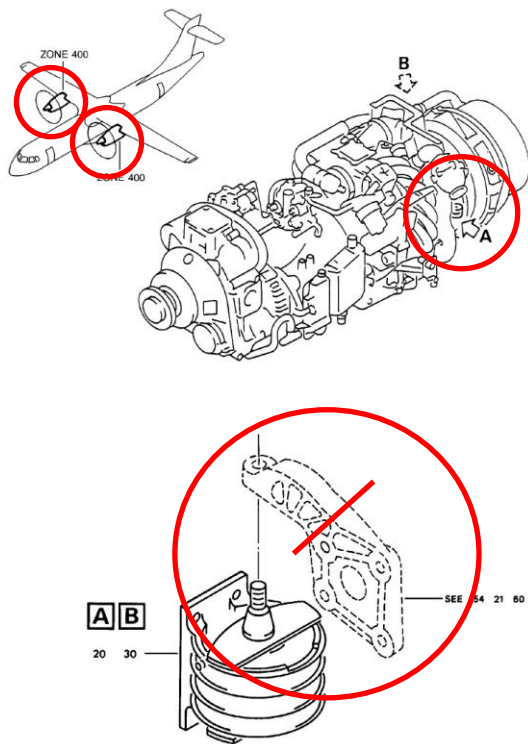
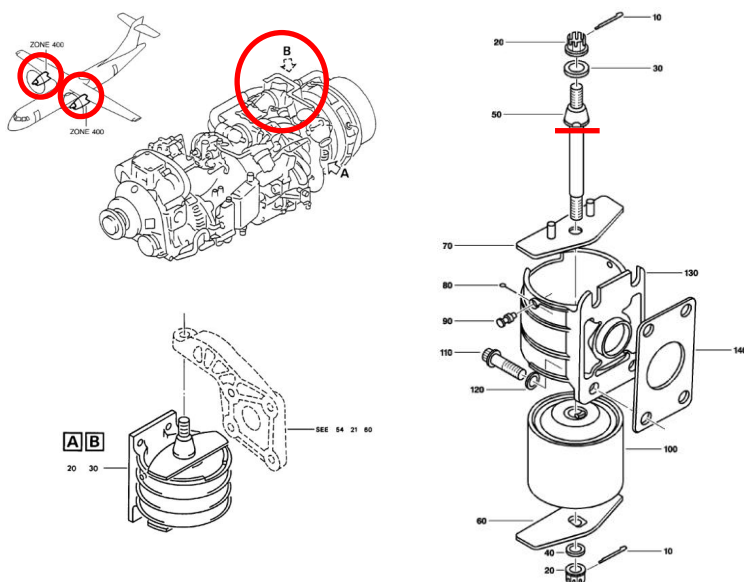

Figure 1: Shock mount pick-up fitting potential failure
Figure 2: Shock mount cone bolt potential failure
<p>Required Action(s) and Compliance Time(s):</p>	<p>Required as indicated, unless already accomplished</p> <p>(1) Within 6 months after the effective date of this AD, accomplish the following actions concurrently:</p> <p>(1.1) Identify the s/n of the P/N S54210394200 LH shock mount pick up fittings installed on both engine nacelles.</p> <p>A review of maintenance records is acceptable to determine the s/n of the LH shock mount pick up fitting, provided the s/n can be conclusively identified from this review.</p> <p>(1.2) Visually inspect both LH and RH aft side isolator pick up fittings on both engines in accordance with the instructions of the applicable Aircraft Maintenance Manual (AMM) Job Instruction Card (JIC) 541161-DVI-10000 paragraph 004.1. Refer to Appendix 1 Figure 1 of this AD for potential crack location.</p> <p>(1.3) Visually inspect both LH and RH aft shock mount cone bolts on both engines in accordance with the instructions of the applicable AMM JIC 712000-DVI-10000 paragraph 006.3.A. Refer to Appendix 1 Figure 2 of this AD for potential crack location.</p> <p>(2) If, during any inspection as required by paragraphs (1.2) or (1.3) of this AD, cracks are detected, before next flight, contact ATR to get approved replacement instructions and apply them accordingly within the compliance time specified in those instructions.</p> <p>(3) If the s/n of the L/H shock mount pick up fitting, identified as required by paragraph (1.1) of this AD, is lower than 2451 or unreadable, and no crack has been found, within 6 months after the inspection as required by paragraph (1.2) of this AD, replace LH shock mount pick up fitting P/N S54210394200 with a serviceable LH shock mount pick up fitting having a s/n equal to or higher than 2451, in accordance with ATR approved replacement instructions.</p> <p>(4) Within 30 days after the inspections as required by paragraph 1 of this AD, report all findings (including none) to ATR, by using the reporting form provided in Appendix 2 of this AD.</p> <p>(5) From the effective date of this AD, do not install on any aeroplane a LH shock mount pick up fitting P/N S54210394200, unless it has been determined to have a s/n equal to or higher than 2451.</p>